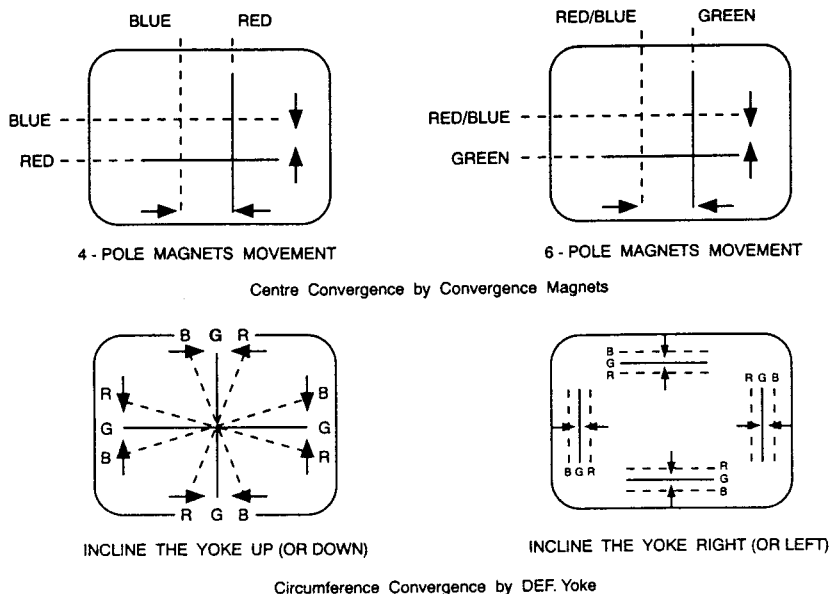

Figure3. Dot Movement Pattern
- 6) Rotate and spread the tabs of the purity magnet (See Fig. 3) around the neck of the picture tube until a green belt is obtained in the centre of the screen.
- d) Turn the both taps while at the same time keeping angle constant and superimpose the red and the blue horizontal lines at the centre of the screen. (See Fig. 3).
- c) Tilt front of the deflection yoke up or down to obtain better convergence in circumference. (See Fig. 3) Push the mounted wedge into the space between th picture